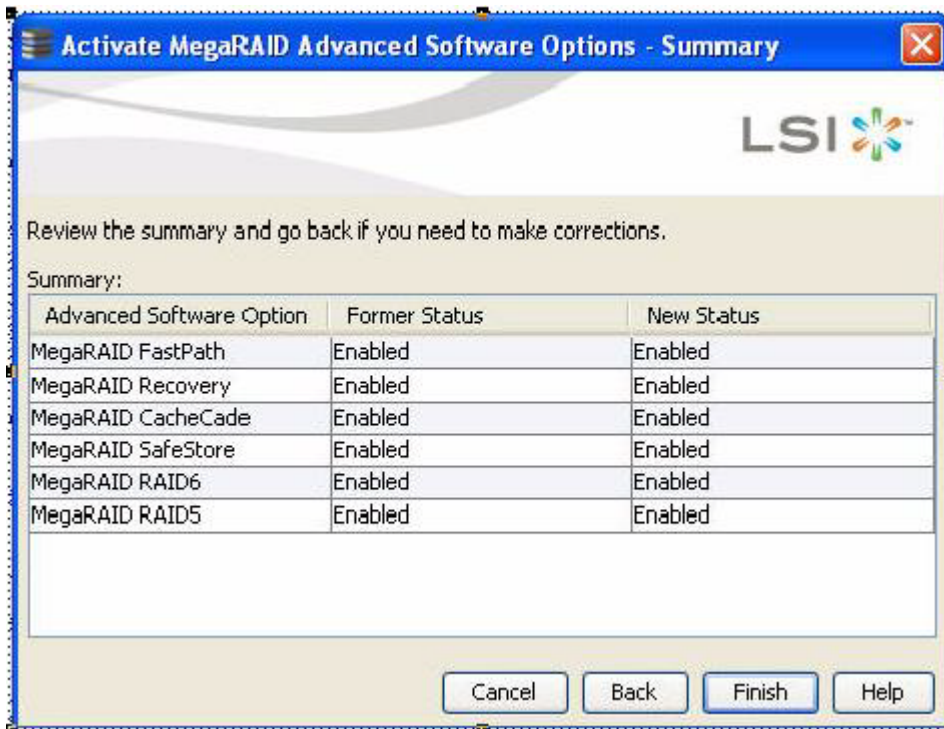

Figure 236 Activate MegaRAID Advanced Software Options - Summary Dialog
- The **Activate MegaRAID Advanced Software Options – Summary** dialog appears as shown in Figure 236.